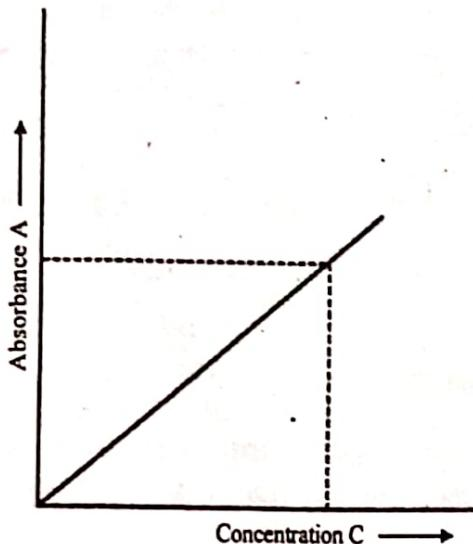

Fig: 1 Graph between concentration and absorbance
**Quantitative analysis:** Ultraviolet and visible spectrophotometric methods have been used to determine the unknown concentration of a compound in solution. The essential condition to develop such a method is that Beer's law.  $A = \epsilon cb$ , must be obeyed in the range of concentration to be used. The absorbance  $A$  is measured directly from spectrophotometer at various concentrations 'C' of the solution. A graph is then plotted between  $A$  and  $C$  as shown in Fig. 1. Absorbance  $A'$  of the solution of unknown